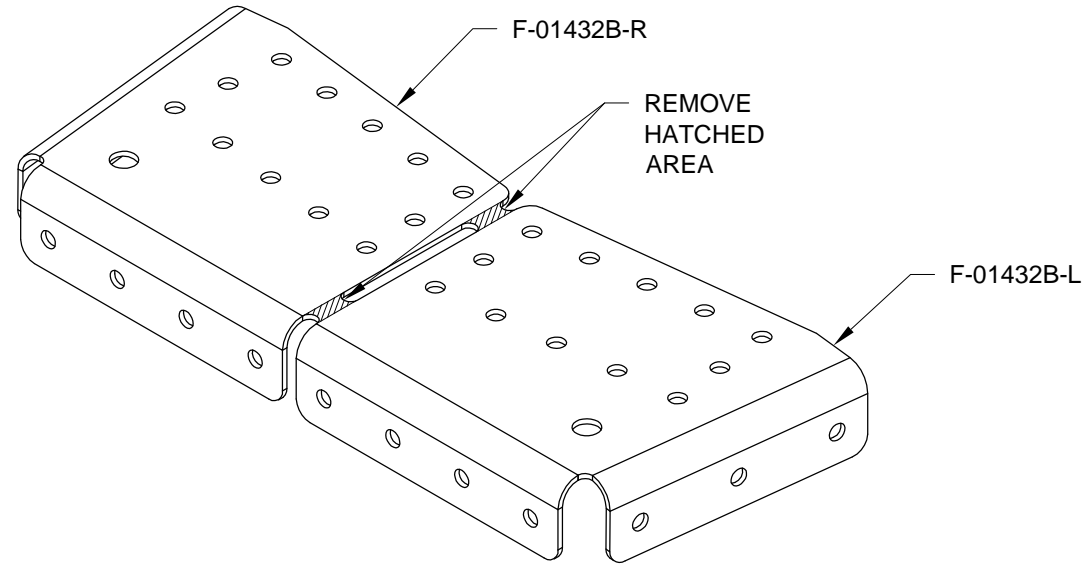

FIGURE 1: SEPARATE LEFT AND RIGHT BRACE BRACKETS
Page 37-06 MEMO: In Figure 1, revised LP4-3 rivet call-outs for clarity.
Step 1: Separate the F-01432B-L & F-01432B-R Roll Bar Brace Brackets by removing the hatched areas as shown in Figure 1.